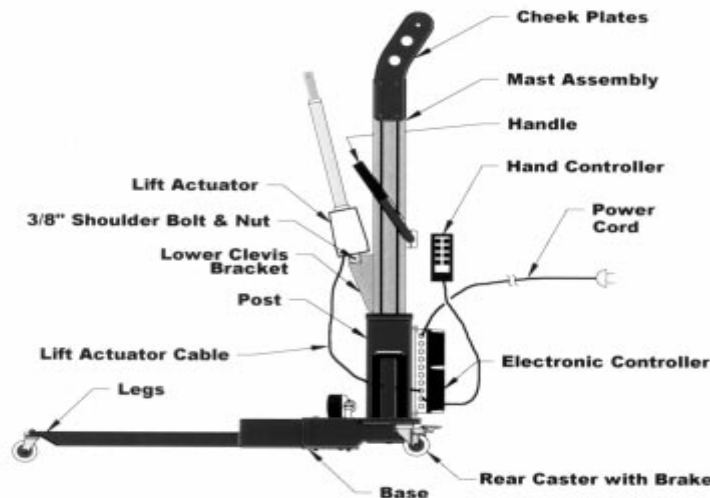

Figure No. 3 (Base, Mast and Lift Actuator Assembly)
Step 3. BOOM LIFT ACTUATOR to MAST ASSEMBLY (Figure No. 3)
Slide the motor end clevis of the LIFT ACTUATOR over the LOWER CLEVIS BRACKET that is part of the lower section of the MAST ASSEMBLY and insert the shoulder bolt to secure the lower half of the LIFT ACTUATOR to the MAST ASSEMBLY. The cable (motor side) end of the actuator should be on the left side of the MAST ASSEMBLY, as viewing it from the CONTROLLER side of the lift, to facilitate connecting the LIFT ACTUATOR to the CONTROLLER. Install the locking nut onto the bolt using the 1/2" Socket and the small Allen Wrench. Allow the LIFT ACTUATOR to rest in the forward position as shown in Figure No. 3.